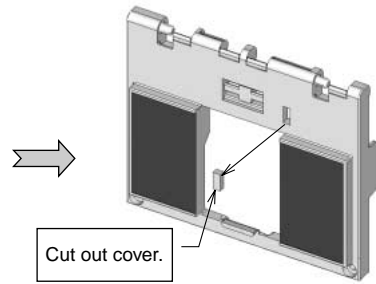

Fig. 4
- (2) Remove the part shown in Fig. 4 with a cutter.